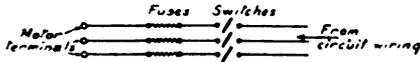

Fig. 6.—Diagram of 3-Phase Connections.
A.C. Motor Starting.—The A.C. motor is usually "polyphase," that is, either two- or three-phase. For small power installations, such as are being considered in this article, "squirrel-cage" or "short-circuited rotor" machines are almost invariably used. These are more simple to start up than a *D.C.* machine, as no special starter is required. Consequently the motor (either two- or three-phase) can be switched directly on the line. The sketches, Figs. 6 and 7, show the connections in diagram form. In either case the switches used must be linked together, so as to make or break the circuit on each conductor simultaneously.